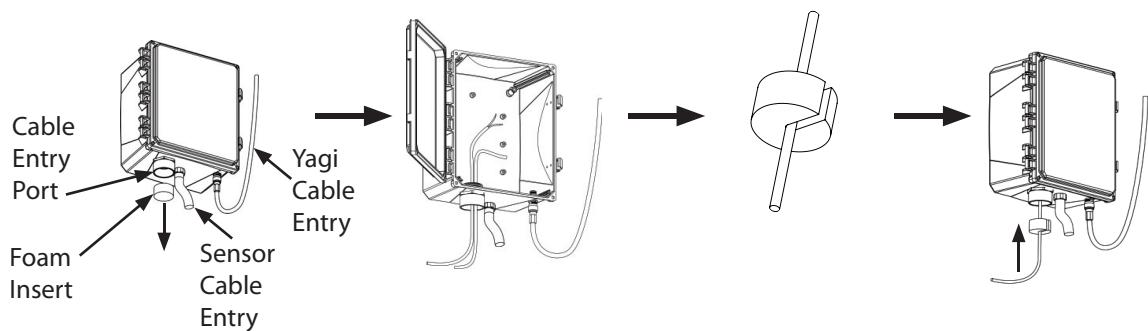
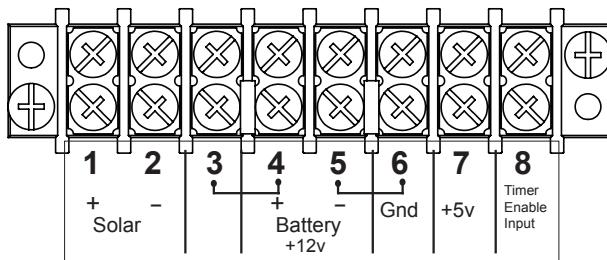
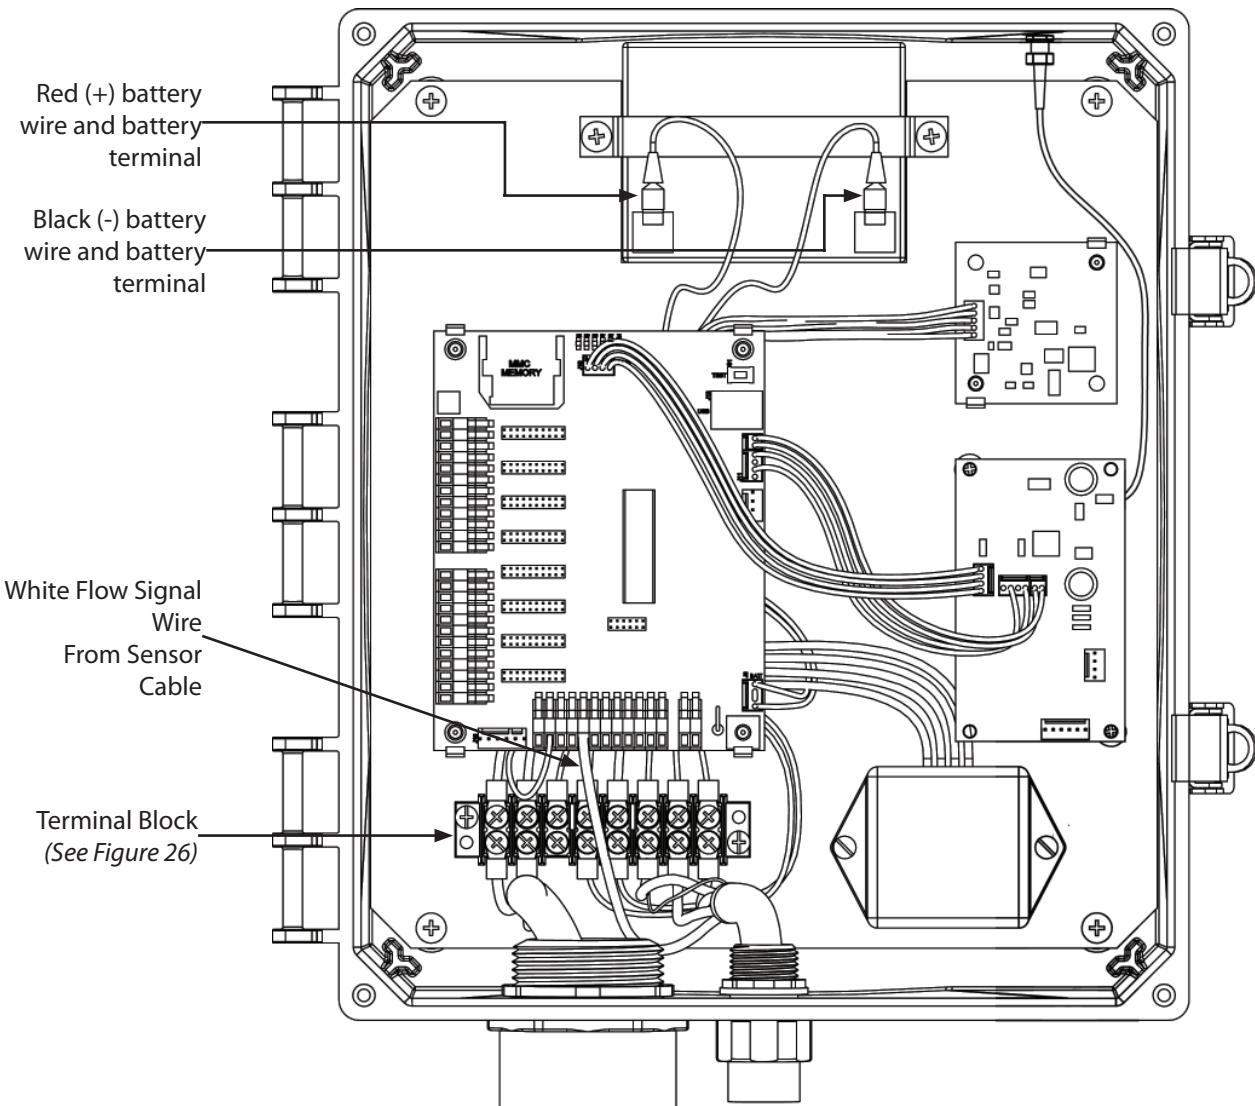

Figure 25: Cable Entry Illustrations
Figure 26: Terminal Block And Wire Associations
Figure 27: Electronics Enclosure Configuration
Locate the foam insert in the cable entry port located at the bottom of the Electronics Enclosure. Remove the foam insert by grasping the insert and pulling it downward. Locate the cable from the RemoteCOM Solar Panel and insert them into the Electronics Enclosure through the cable entry port. Pull a sufficient amount of each cable through the port to allow each cable to be easily manipulated inside the enclosure. Reinsert the foam by first sliding both cables into the slot in the foam, then push the foam into the cable entry port, sealing the port. (See Figure: 25) Locate the cable from the Yagi antenna and screw it into the bulkhead connection at the bottom right of the enclosure. To attach the Sensor Cable, bore a hole in the bottom of the enclosure next to the cable entry port of sufficient size to accommodate the user-selected cable enclosure system.
Attach the sensor cable from the RC20 Mc Propeller Transmitter to the Electronics Enclosure through a user-supplied water-tight connection as shown in *Figure: 25*. The sensor cable is user-supplied and will typically have five wires: black ground, shield wire, red +5V, green timer cable and white flow signal. *See Figure 26 below for a diagram of the following sensor cable connections.*
**Important Note:** The White flow signal wire is to be connected to the pc board at digital input 2 (gray terminal) 5th from left. (*See Figure: 25*)
1. Locate the power cable from the RemoteCOM Solar Panel. The power cable has two wires: a red (+) wire and a black (-) common wire. Next locate the terminal block positioned in the lower-left corner of the Electronics Enclosure. (*See Figure 26*) Attach the red (+) wire to terminal 1. Attach the black (-) common wire to terminal 2. After all power and sensor cable connections have been properly attached, locate the battery leads near the battery mounted at the top of the enclosure. Attach the red (+) wire to the positive battery terminal, and the black (-) wire to the negative battery terminal. (*See Figures: 27 and 28*.)